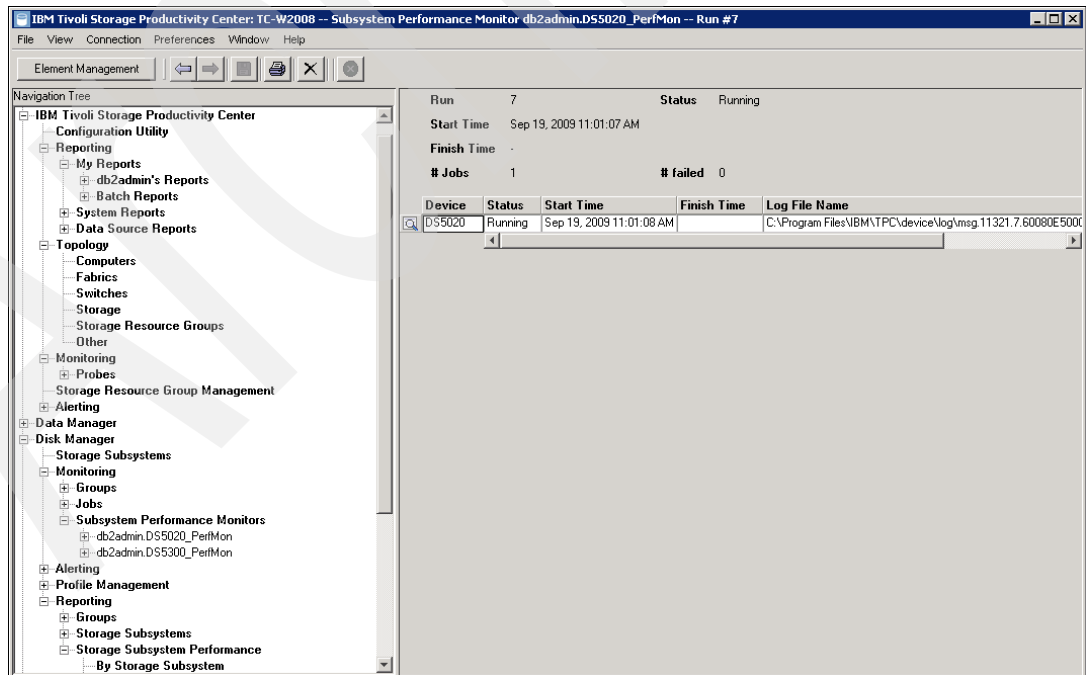

Figure 9-27 Verify Performance Monitor job
5. Your Performance Monitor job must have been submitted now. To verify the job status, expand the job name under **Disk Manager** → **Monitoring** → **Subsystem Performance Monitor**, as shown in Figure 9-27.